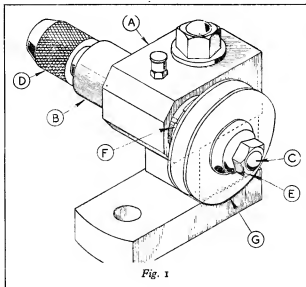

Fig. 1
As will be seen in the drawings Figs. 1 and 2, the body casting (A) is cross-bored to accommodate the cast-iron drill sleeve (B) which, in turn, carries the drilling spindle (C), driven by the V-pulley (G). As the turret-head will remain in one position when in use and will not